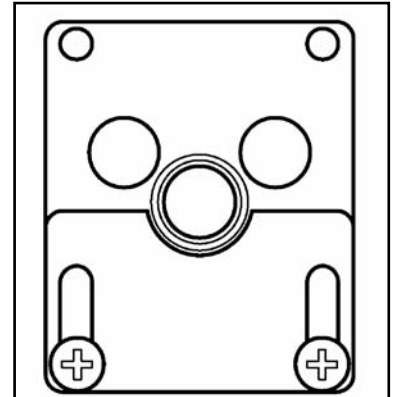

Figure 10. Aeration shutter setting
- The aeration shutter is factory set. It is important to ensure that the aeration setting is correct. Check the aeration shutter setting (See figure 10).
- To adjust the aeration setting, loosen the two aeration shutter screws, slide the aeration shutter to the position shown in figure 10 and tighten the fixing screws.